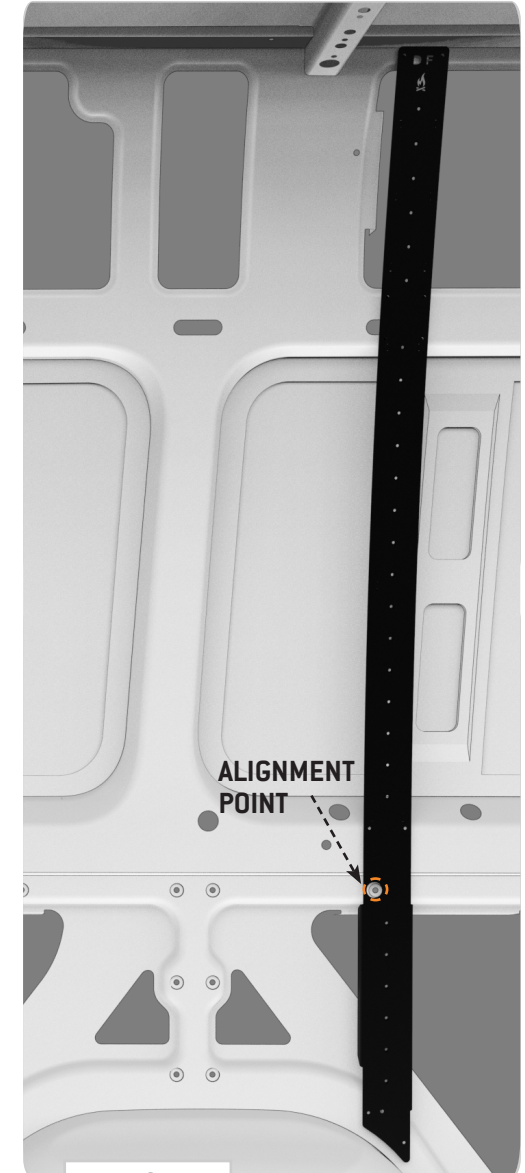

FIG 4
2.3 Align Driver Side Rear Bracket: Align the **Driver Side Front Bracket** to the **Alignment Point** as shown in FIG 4.